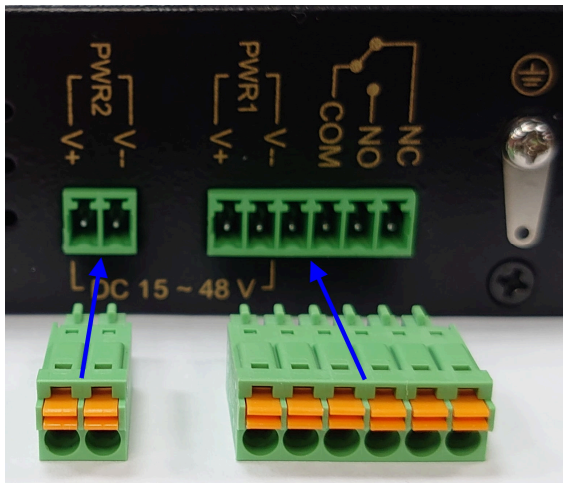

Figure 2.5.1
- ◆ Take out the “2pin / 6pin terminal block” from inside the accessory kit, and install to the NV-520G properly. (Figure 2.5.1)